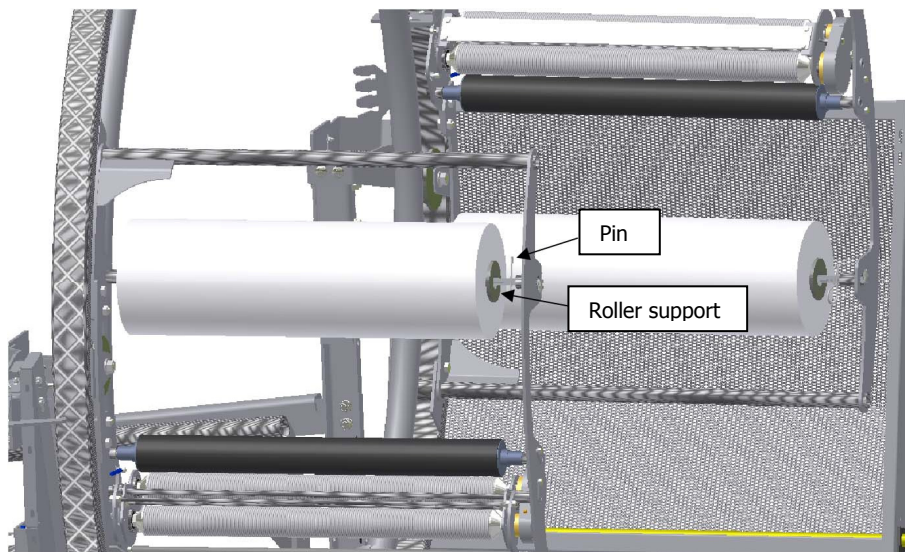

Figure 14 – Supports for film rolls
2. Remove the pin from the support before putting the film roll (Figure 14). Then slide the support to allow your enough space to add the new roll. (or remove the old one)